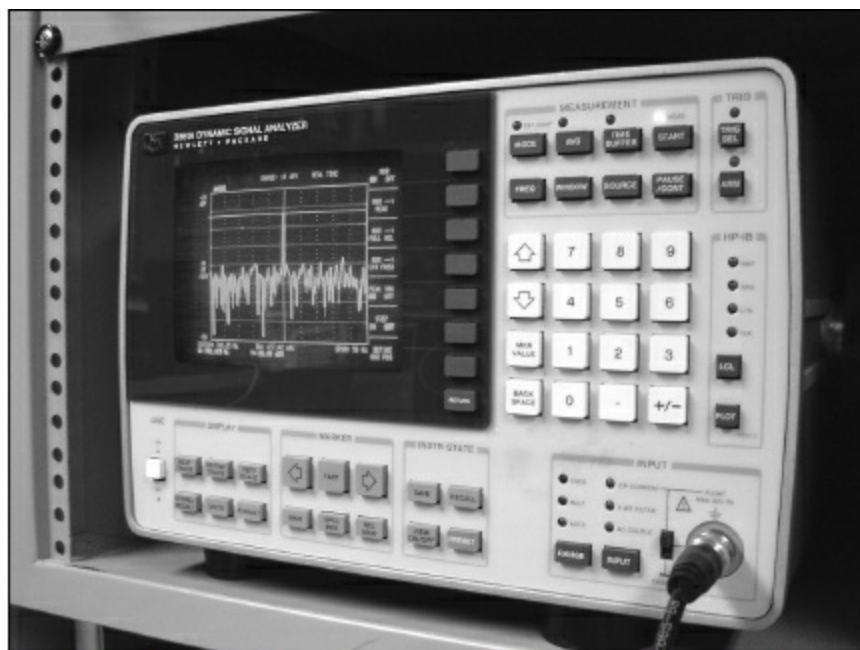

Figure 4.2 — An HP-3561A signal analyzer, used to observe a 1 dB drop of audio level.
The output level from the blocking generator is increased until a 1 dB decrease in the level of the weaker desired signal measured at the receiver audio output is observed in the audio signal analyzer (**Figure 4.2**). The input blocking level at which blocking starts is noted, and the difference between the MDS level and the blocking level determines the BGC DR. In this case, at 14 MHz with the preamp off, the MDS is -127 dBm (from Chapter 3). The blocking level (BL) is the level from the signal generator ($+13$ dBm) minus the loss of the hybrid combiner (3 dB):